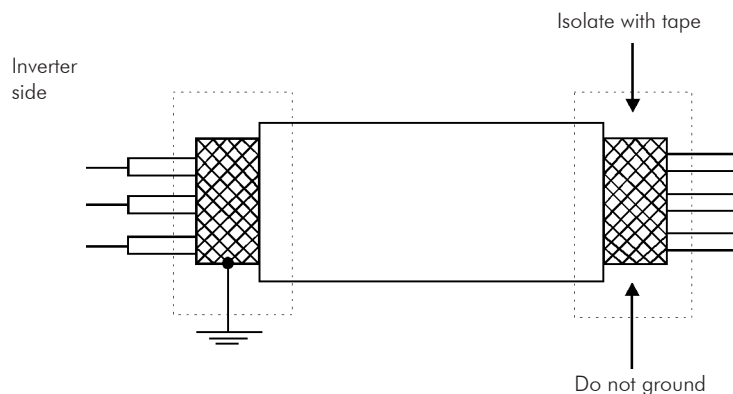
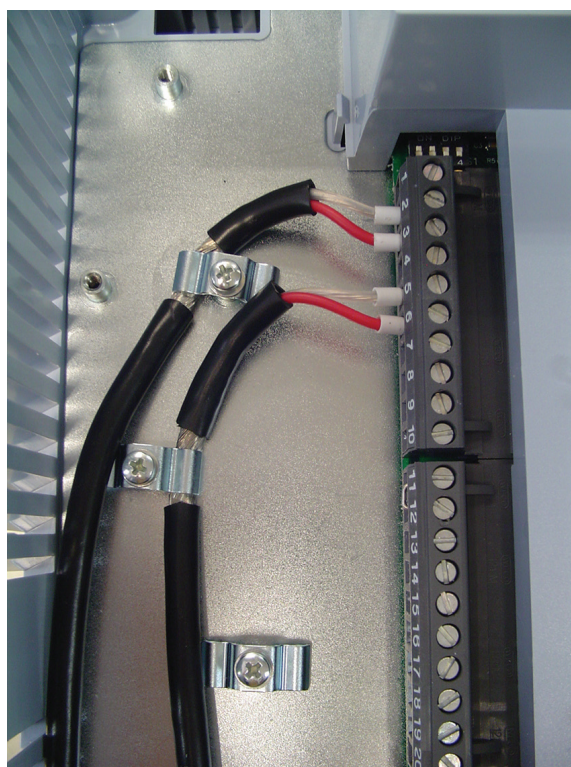

Figure 3.22 - Shield connection
Figure 3.23 - Example of shield connection for the control wiring
- The adequate connection of the cable shield is shown in Figure 3.22 on page 3-30. Figure 3.23 on page 3-30 shows how to connect the cable shield to the ground.
- ☑ Use shielded cables connected to ground only on inverter side. Use the provided metallic pieces as shown on Figure 3.23 on page 3-30.